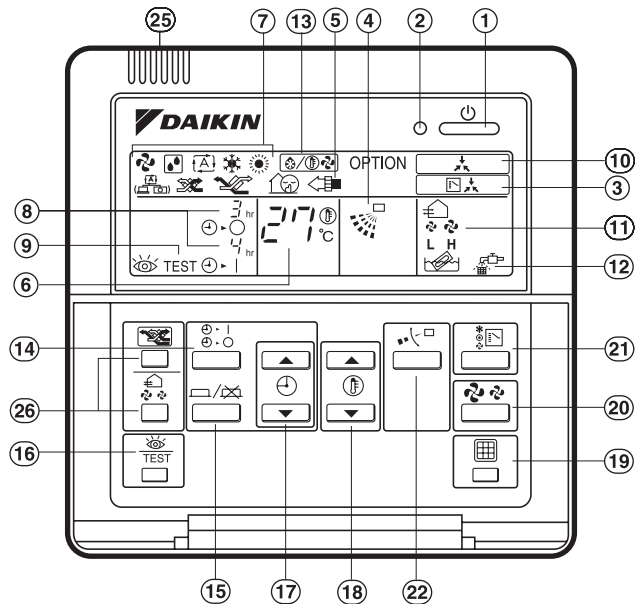

figure 2
2-4 Remote Control and COOL/HEAT Selector: Name and Function of each Switch and Display (Refer to figure 2 and 3)
- Figure 2 shows the remote control which is opened the cover.
- For FXS, FXM, FXL and FXN, the air flow direction adjust button (22) is not available and the display (4) shows “NOT AVAILABLE” when pressed.